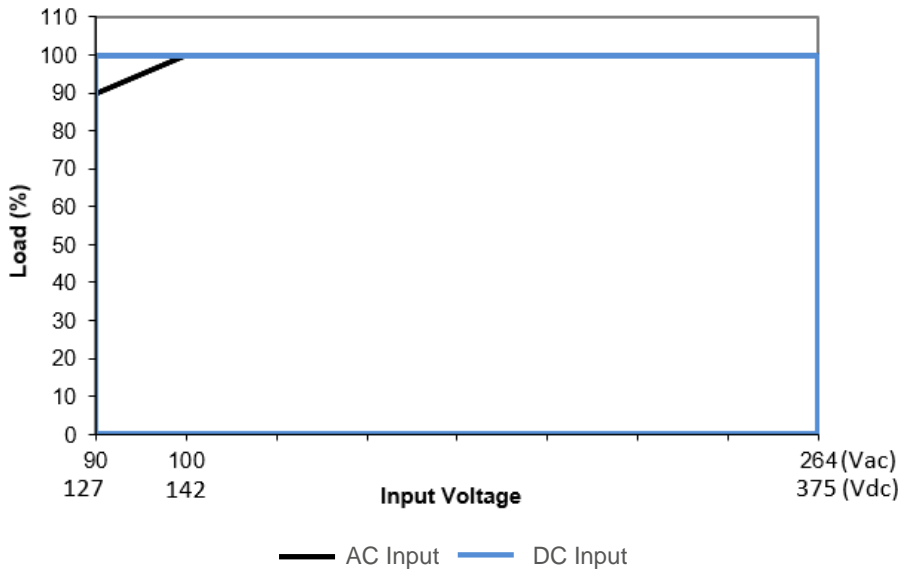

**Fig. 1 De-rating for Horizontal Mounting Orientation**
1. Power supply components may degrade, or be damaged, when the power supply is continuously used outside the shaded region, refer to the graph shown in Fig. 1 & Fig. 2.